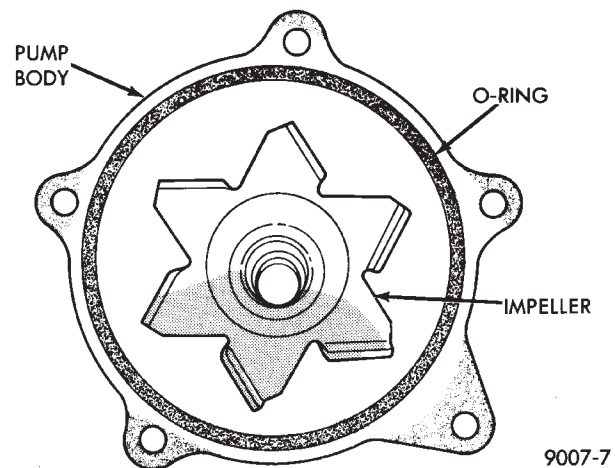

Fig. 2 Water Pump Body
- (1) Install new O-ring in O-ring groove (Fig. 2).
- (2) Install pump to chain case cover. Torque screws to 12 N•m (105 in. lbs.).
- (3) Rotate pump by hand to check for freedom of movement.
- (4) Position pulley on pump. Install screws and torque to 30 N•m (250 in. lbs.).
- (5) Install drive belt. See Accessory Drive Belts this group.